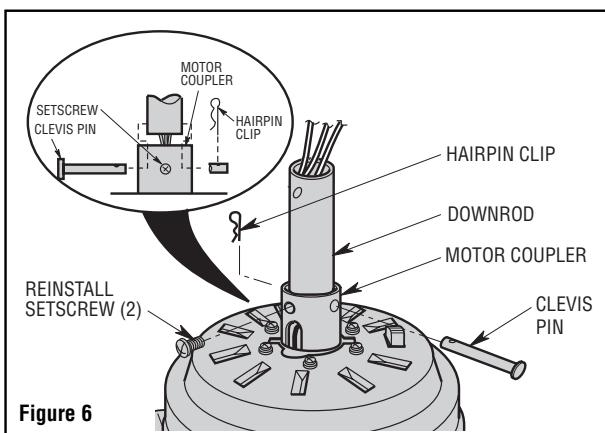

Figure 6
- Separate, untwist and unkink the three 80" motor leads. Route the motor lead wires through the downrod. Align the clevis pin holes in the downrod with the holes in the motor coupler. Install the clevis pin and secure with the hairpin clip (Figure 6). The clevis pin must go through the holes in the motor coupler and the holes in the downrod. Be sure to push the straight leg of the hairpin clip through the hole near the end of the clevis pin until the curved portion of the hairpin clip snaps around the clevis pin. The hairpin clip must be properly installed to prevent the clevis pin from working loose. Pull on the downrod to make sure the clevis pin is properly installed.
- While pulling up on the downrod, reinstall and tighten the two setscrews (previously removed in Step 6) in the motor coupler (Figure 6).
It is critical that the clevis pin in the motor coupler is properly installed and the setscrews securely tightened. Failure to verify that the pin and setscrews are properly installed (as shown in Figure 6) could result in the fan falling.